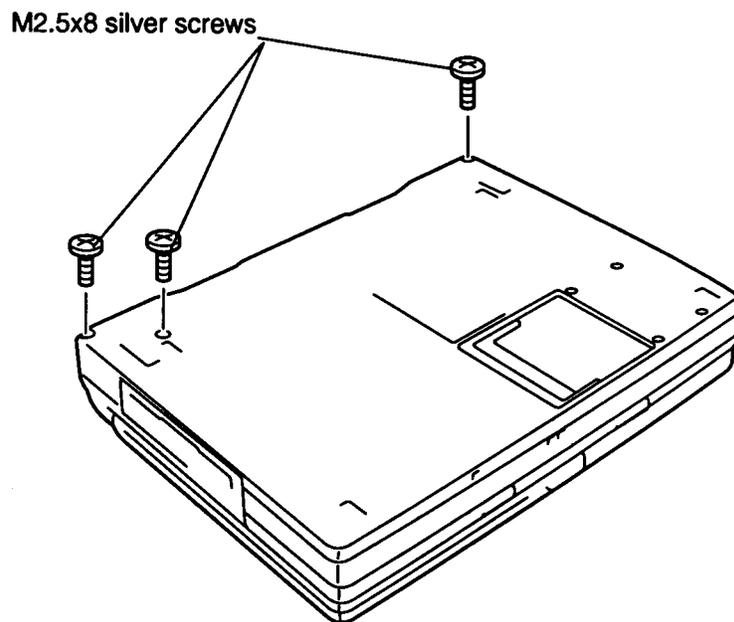

Figure 4-14 Removing the top cover screws
To remove the computer's top cover, display assembly, and speaker, follow the steps below and refer to Figures 4-14 to 4-16.
3. Turn the computer over and remove **three M2.5x8 silver screws** securing the cover (Figure 4-14).
To install the computer's top cover, display assembly and speaker, follow the steps below and refer to Figures 4-14 to 4-16.
10. Secure the **three M2.5x8 silver screws** on the bottom of the computer (Figure 4-14).